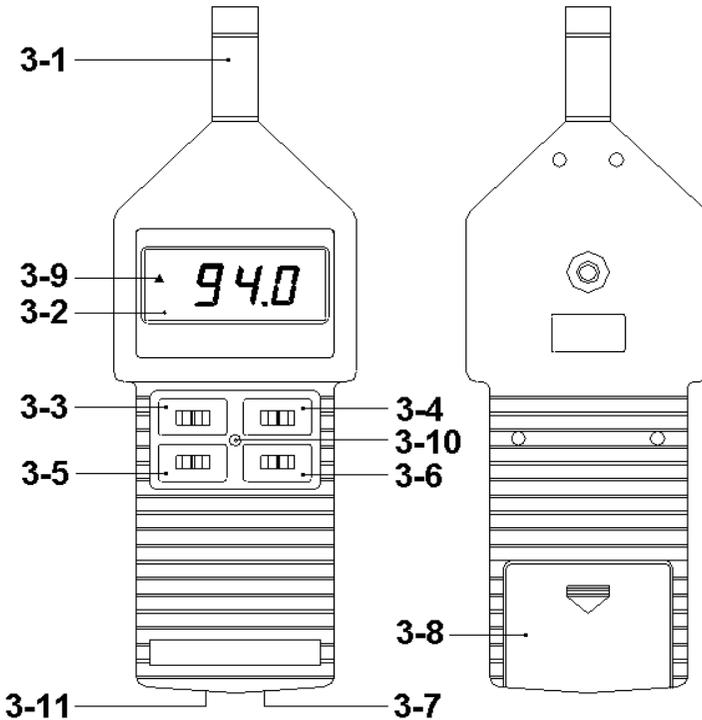

Fig. 1
- * ***Push the " Reset Switch (3-11, Fig. 1) will reset the Max. Hold value and execute the Max. Hold function again.***